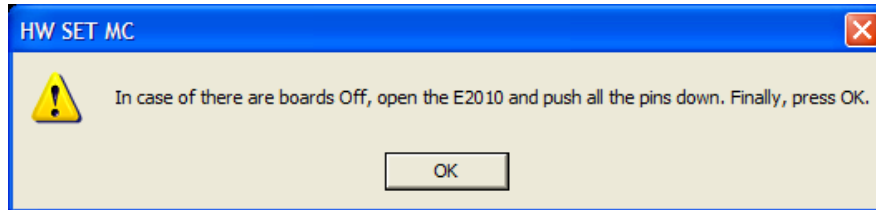

Figure 2-48: HW SET MC Message – If Boards Are Off
10. The *HW SET MC* window shown in Figure 2-48 displays, click **OK**.